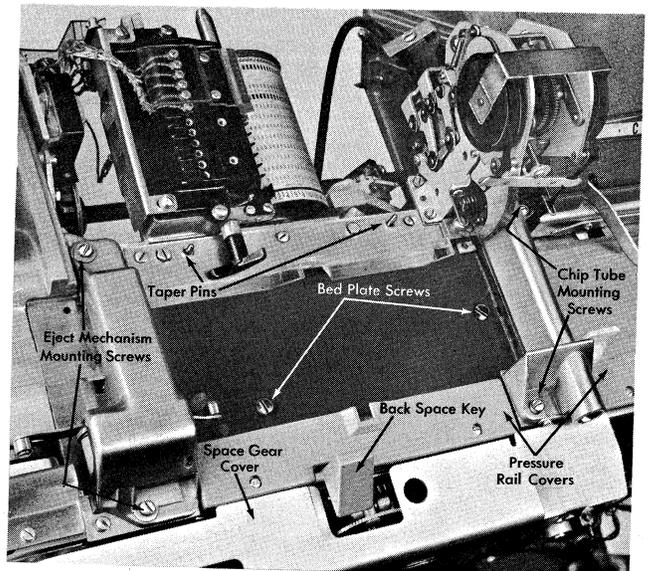

Figure 45. Punch Bed (Front View)
- Chip tube by taking out two screws (Figure 45). Be careful not to lose the pressure roll spring.
3. Remove chip tube by taking out two screws (Figure 45). Be careful not to lose the pressure roll spring.
5. Remove front pressure rail covers at punch and read stations (Figure 45).